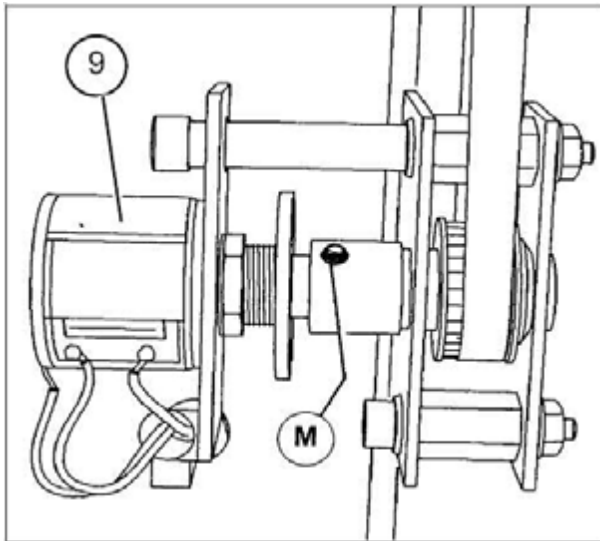

Fig. 33: Potentiometer r4
- Loosen the set screw M (1.5 Allen) at potentiometer r4 ((9/Fig. 33 / p. 64)) on the left side of the system.